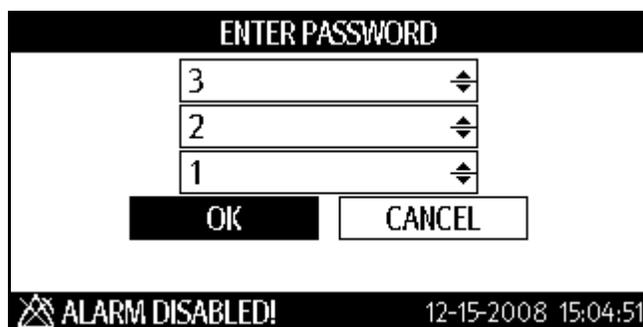

FIGURE 6-4 ENTER PASSWORD dialog
9. Once **CALIBRATION** is highlighted, press  (18) to display the Enter Password dialog, as shown in FIGURE 6-4.
10. In the Enter Password dialog, press  (18). See FIGURE 6-4.
11. Press  (16) or  (19) to set the first password digit to 3.
13. Press  (16) or  (19) to highlight the second password digit.
15. Press  (16) or  (19) to set the second password digit to 2.
17. Press  (16) or  (19) to highlight the third password digit.
19. Press  (16) or  (19) to set the third password digit to 1.